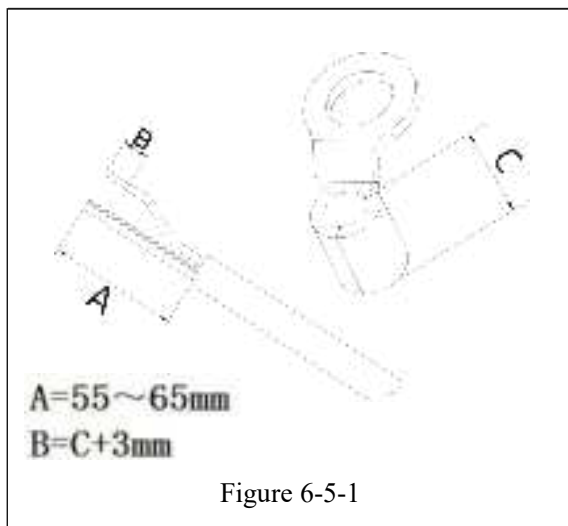

Figure 6-5-1
**Step 1:** Select the appropriate cable type and specification according to figure 6-3; Strip the cable, For the stripping length, refer to figure 6-5-1.